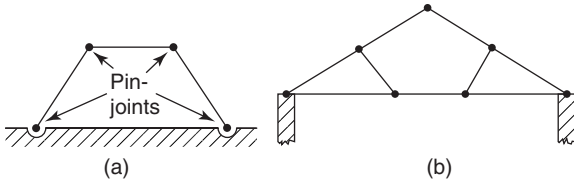

Figure 4.4 Mechanisms
**indeterminate** pin-jointed trusses, nor can they be used to determine forces in **mechanisms**. Statically indeterminate structures are so called because they cannot be analysed by the principles of statics alone. Typical mechanisms are shown in Figure 4.4; these are not classified as structures because they are not firm and can be moved easily under external loads.
To make the mechanism of Figure 4.4(a) into a simple statically determinate structure, it is necessary to add one diagonal member joined to a top joint and an 'opposite' bottom joint. To make the mechanism of Figure 4.4(b) into a statically determinate structure, it is necessary to add two members from the top joint to each of the two bottom joints near the mid-length of the bottom horizontal.
Problem 1. Show how the mechanism of Figure 4.4(a) can be made into a statically determinate structure.
Problem 2. Show how the mechanism of Figure 4.4(b) can be made into a statically determinate truss.
Problem 3. Show how the mechanism of Figure 4.4(a) can be made into a statically indeterminate truss.